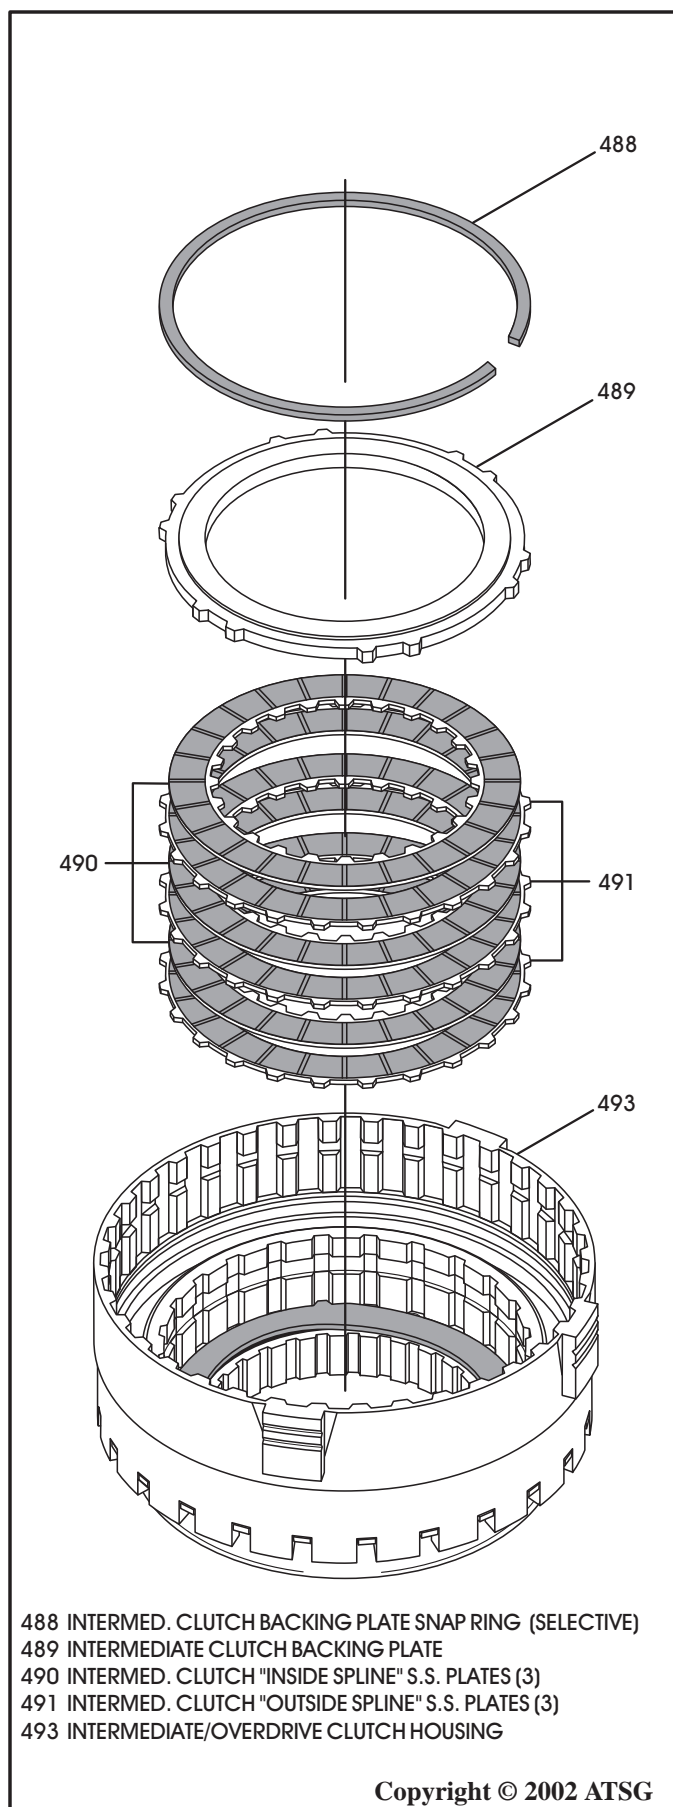

Figure 119
9. Install the intermediate clutch "single sided" plates beginning with an outside spline plate first and alternating with inside spline plates until you have installed 3 of each, as shown in Figure 119.
Note: Lined side must be installed facing up as shown in Figure 119. Clutch plate amounts may vary by model.
10. Install the intermediate clutch backing plate, as shown in Figure 119.
11. Install the "Selective" backing plate snap ring as shown in Figure 119, and ensure that snap ring is fully seated against the top of snap ring groove in the housing.